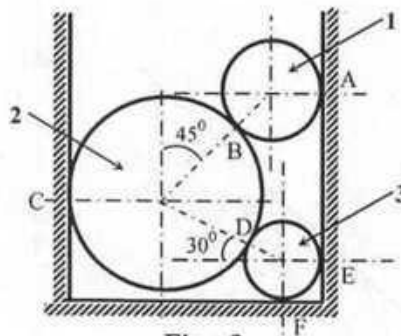

Fig : 3
3. Three spheres 1, 2 and 3 are at equilibrium as shown in Fig. 3 below. $W_1 = 60\text{lb}$, $W_2 = 150\text{lb}$ and $W_3 = 30\text{lb}$. Find the reaction at F